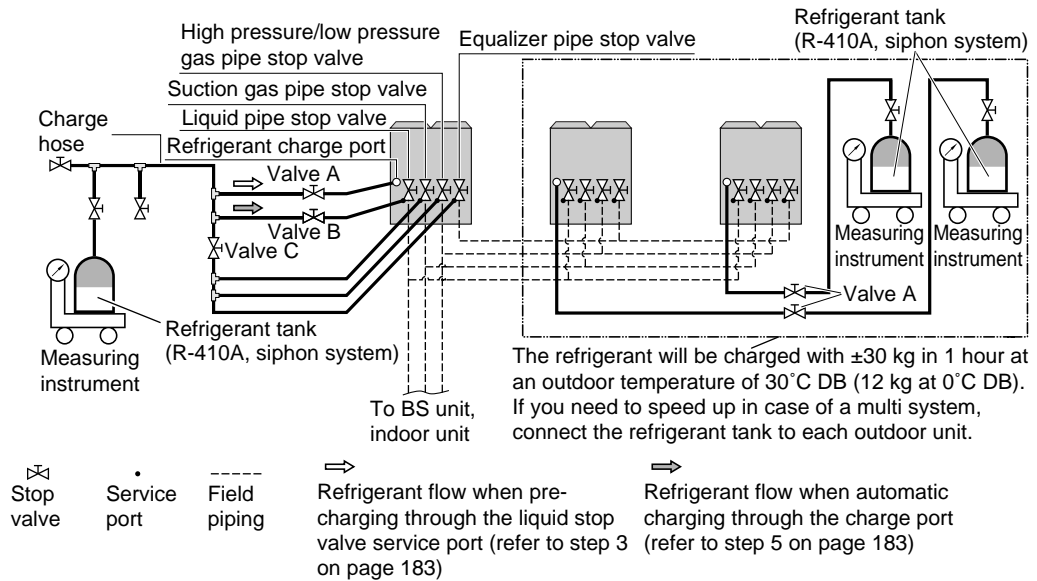

figure 24
- Open valve B (the valves A and C, the liquid pipe, the suction gas pipe, the high pressure/ low pressure gas pipe and the equalizer pipe stop valves must be left closed) and charge the refrigerant in liquid form via the liquid pipe stop valve service port. (See figure 24)
- After pre-charging, perform the refrigerant charge operation as shown below and charge the remaining refrigerant of the additional charging amount through valve A. (See figure 24)
For a multi outdoor unit system, it is not required to connect all charge ports to a refrigerant tank. The refrigerant will be charged with ± 30 kg in 1 hour time at an outdoor temperature of 30°C DB or with ± 12 kg at an outdoor temperature of 0°C DB . If you need to speed up in case of a multiple outdoor system, connect the refrigerant tanks to each outdoor unit as shown in figure 24.